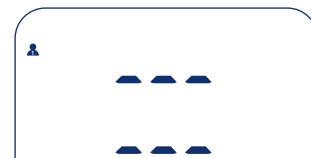

Figure 6
- Now press and hold the SET button for at least 4 seconds until the display flashes before being replaced by dashes (Figure 6).
- To delete the entire memory, retrieve the respective average value (AVG.). Now press and hold the SET button for at least 4 seconds until the average value flashes before being replaced by dashes (Figure 6).